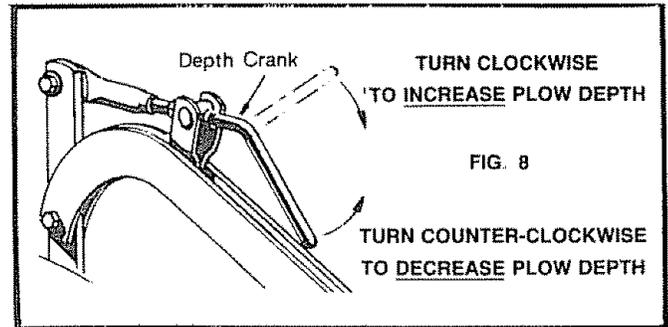

FIG. 8
- If your Plow is not plowing at 4" to 5" deep on your initial two passes, readjust the Plow Depth Crank by turning it clockwise (↻) to go deeper or counter-clockwise (↺) to go shallower. (See Fig. 8) Make this adjustment ONE TURN at a time until desired depth is obtained.
Refer to Fig 8